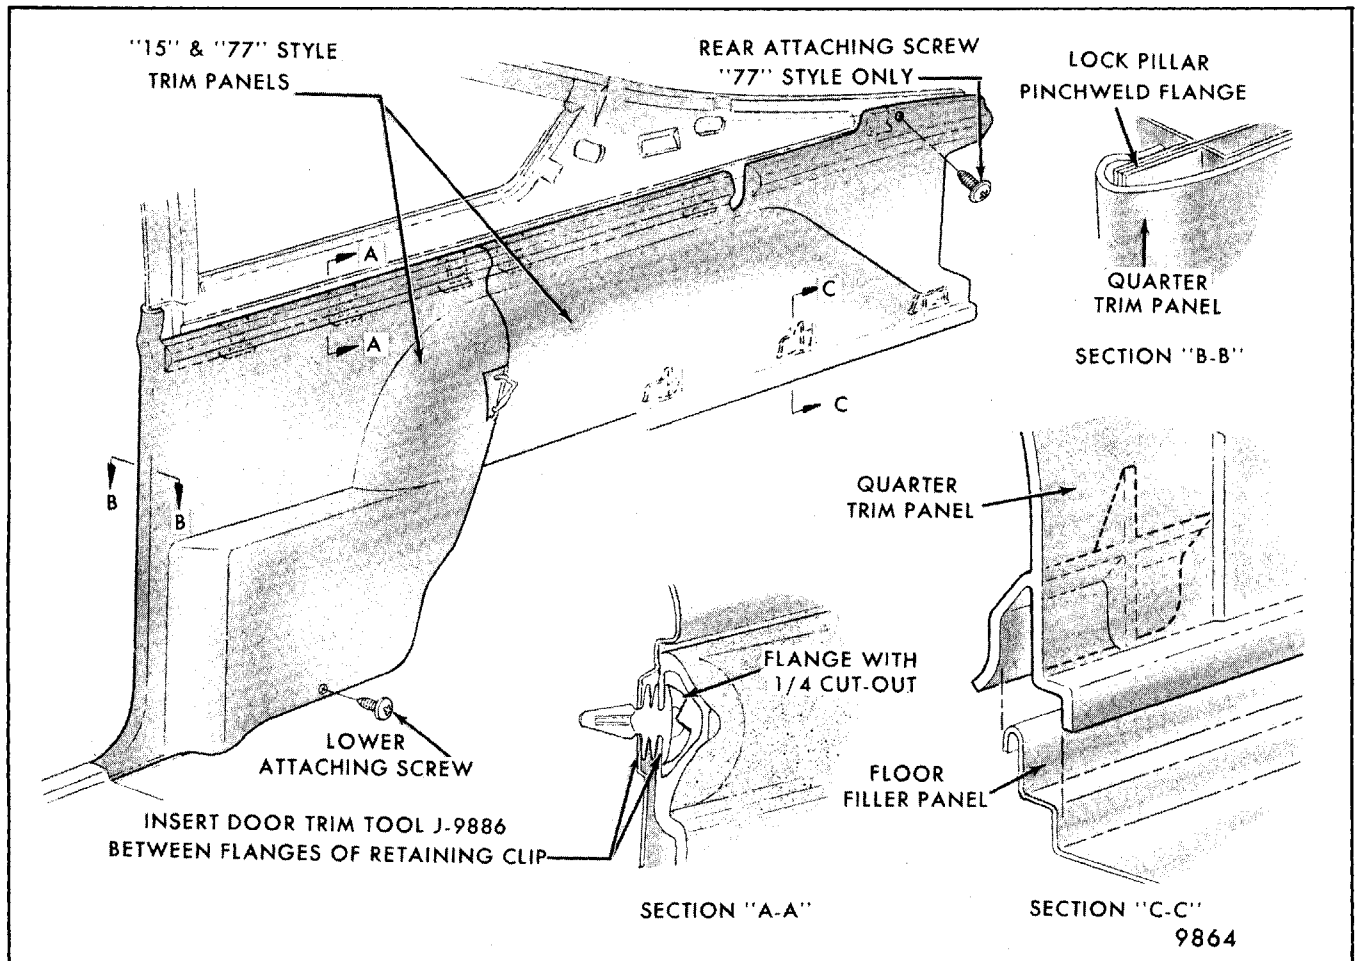

Fig. 6-7-H-15 and 77 Quarter Trim Assembly (H-07 Similar)
2. If removing front trim assembly, remove lower attaching screw. If removing rear trim assembly on 77 style, remove rear attaching screw (see Fig. 6-7).
3. At top of trim assembly, carefully insert trim removal tool BT- 7323 or equivalent between flanges of trim assembly retainer (see Section A-A, Fig. 6-7) and carefully pry retainer out of hole in quarter inner panel. Perform this operation at all retainer locations (see Fig. 6-7). Retainers on 07 style are located at rearmost portion of quarter trim.
If removing rear trim panel, pull panel rearward to disengage front of panel from under rear of front trim panel; then lift panel upward to disengage lower retainers from floor filler panel (see Section C-C, Fig. 6-7) and remove trim assembly.
To replace trim assembly retainer, start retainer flange with 1/4 cutout (see Section A-A, Fig. 6-7) into attachment hole in trim assembly; then rotate retainer until flange with 1/4 cutout is inside of attachment hole.